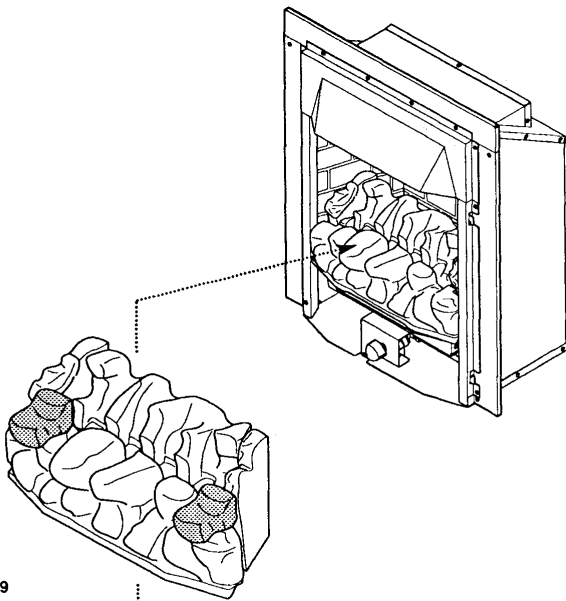

Fig. 29
1. Take 2 coals and place on the outer edges of the front coal moulding (Fig. 29).